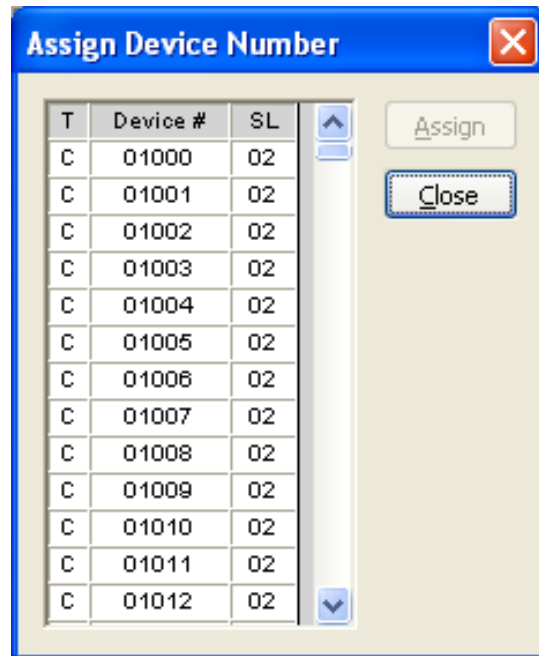

Figure 48
2. Click the ASSIGN button. The Assign Device Number window will appear (Fig 48).